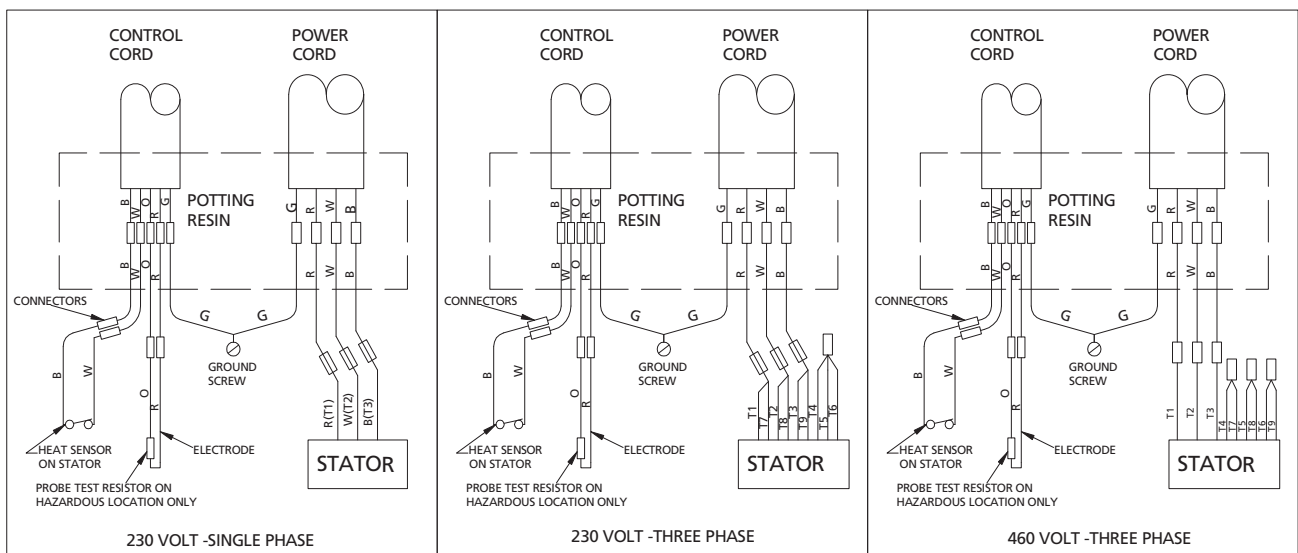

Figure 4
Assembly: Each motor power cord has 4 conductors: white, black, red and green. For a three phase motor the red, black and white conductors connect to the three line leads, and the green is connected to a good ground. Interchanging any two line leads will reverse the rotation of the motor (See Figure 4 on page 9).
For single phase the white and black leads connect to the two-line terminals and the red connects to the start winding terminal. The green is for ground and must be connected to a good outside ground (See Figure 4 on page 9).
The control cable has 5 conductors: black, white, red, yellow and green. White and black connect to the heat sensor terminals; red and yellow connect to the seal failure terminals; and the green connects to the ground in the control panel (See Figure 4 on page 9).
4. Specific Wiring Procedure (Refer to Figures 4, 5 & 6).
6. If the motor must be rewired, consult the wiring diagram on the Figures 4.